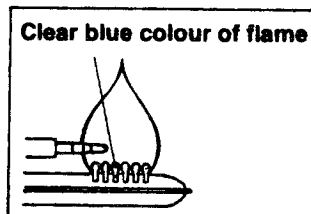

Fig. 2
## The Thermocouple (Fig. 2)
3. Reassemble in reverse order. Check that feeler has been correctly refitted in relation to burner. See Fig. 2.
The color of the flame shall be clear blue over the slots of the burner (Fig. 2).